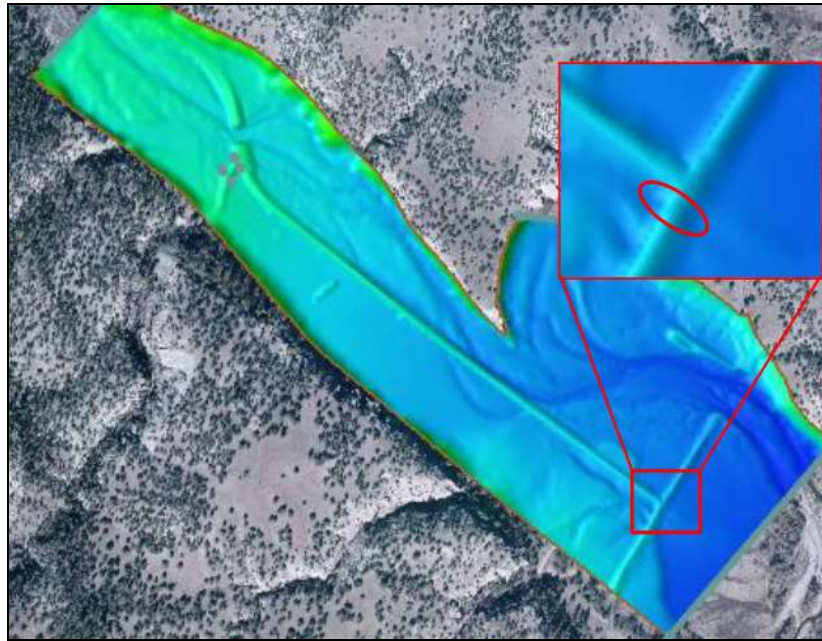

Figure 2 Zoomed in on the gate location
The first step is to create two arcs within the boundary condition coverage that represent the gate structure faces. The gate in this exercise is located near the intersection of the two roads as displayed in Figure 2.
1. **Zoom**  into the gate location shown in the Figure 2 inset image.